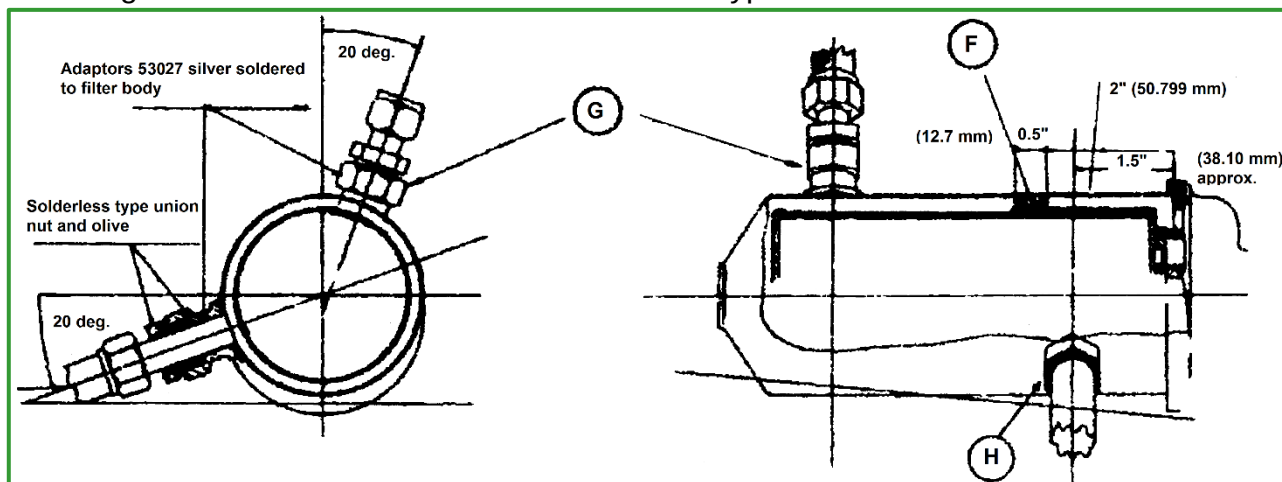

Figure 3a. Vokes oil filter modification.
1. Fit the blanking ring, Part Number 53046, to the oil filter case as shown at (F) *Figure 3a* and secure in position by riveting or sweating, do not weld or braze as this method would tend to cause distortion.
2. Drill two ½-in. (12.70 mm) holes in the filter case in the positions shown at (G) and (H) in *Figure 3a*, and fit the oil cooler pipe adaptors, Part Number 53027. Secure the adaptors to the case with silver solder.